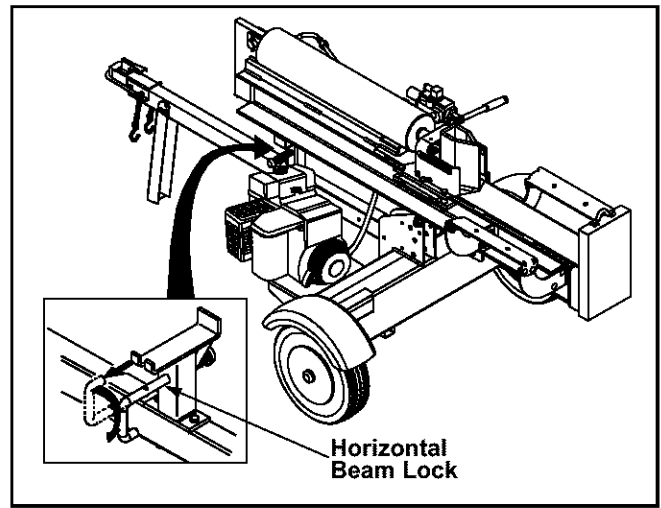

Figure 3
- Lower the beam assembly to its horizontal position. Make certain the beam is locked securely with the horizontal beam lock. See Figure 3.